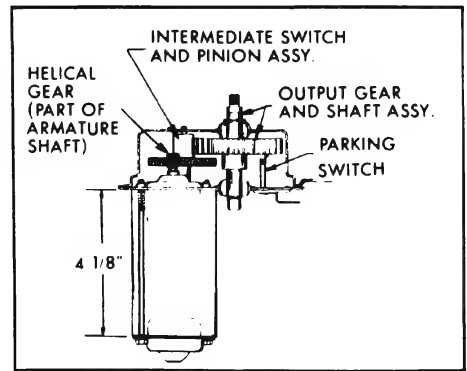
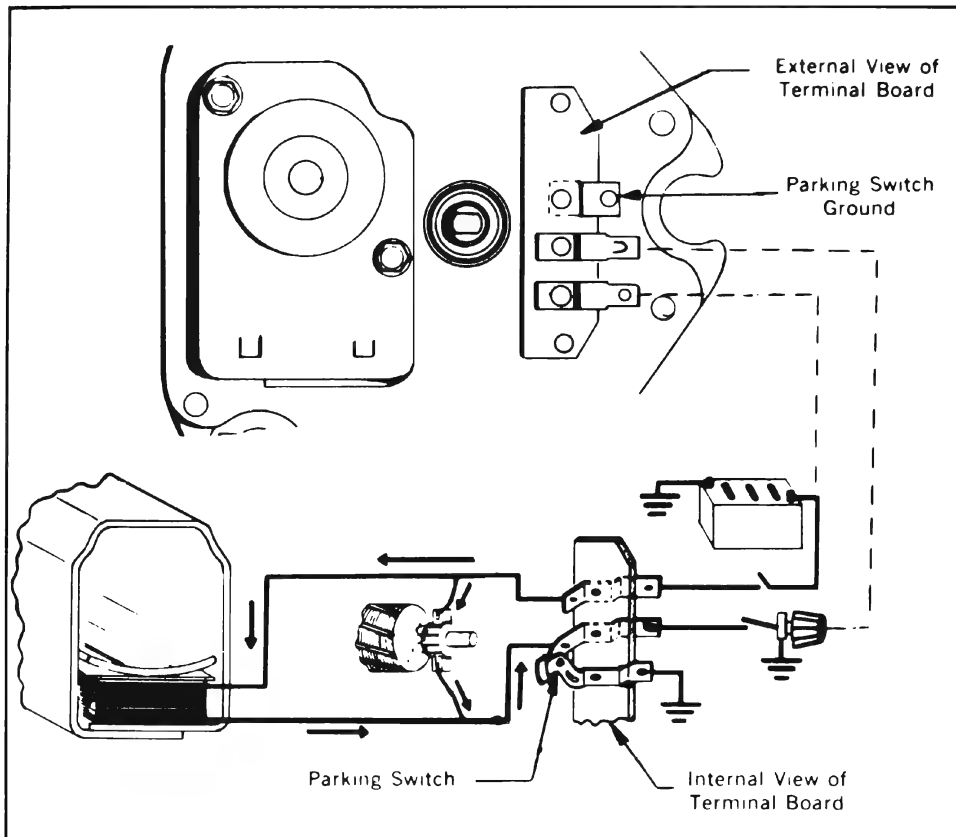

Figure 10-99—Typical View of Gear Train
Figure 10-101—Single Speed Wiper Wiring Diagram
The gear train consists of a helical gear at the end of an armature shaft. The helical gear drives an intermediate gear and pinion assembly, the pinion of which drives an output gear and shaft assembly. See Figure 10-99. The crank arm is attached to the shaft of the output gear and drives the two wiper transmission through connecting link arms. See Figure 10-129 or 131.
a park switch control the starting and stopping of the wiper. The switch mounted on the dash controls starting the wiper. The park switch, which is located in the wiper gear box (Figure 10-99), controls stopping the wiper. The operation of the park switch is explained in the following paragraph. (Refer to the wiring diagram in Figure 10-101).
- (1) Make sure wiring harness is properly attached to wiper terminals and dash switch. See Figure 10-101.
(2) Make sure wiper ground strap is properly connected to wiper and car body.
(3) Make sure switch is mounted securely in dash.
(4) Check fuse.